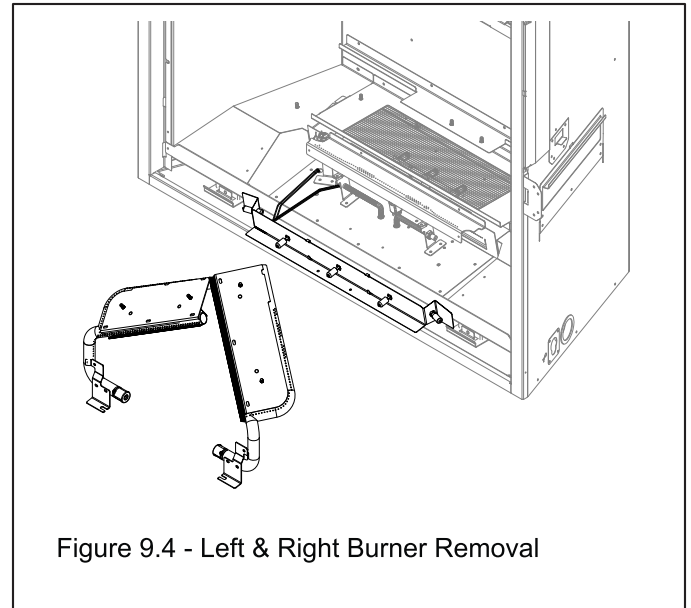

Figure 9.4 - Left & Right Burner Removal
4. Loosen (2) 7/16" nuts for left and right burners. Remove burners. See Figure 9.4.